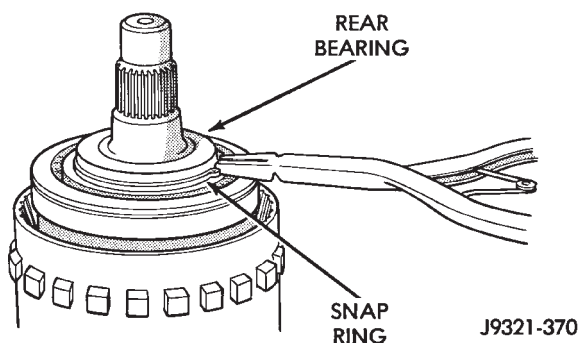

Fig. 223 Rear Bearing And Snap Ring Installation
(7) Install rear bearing and snap ring on output shaft (Fig. 223). Be sure locating ring groove in bearing is toward rear.